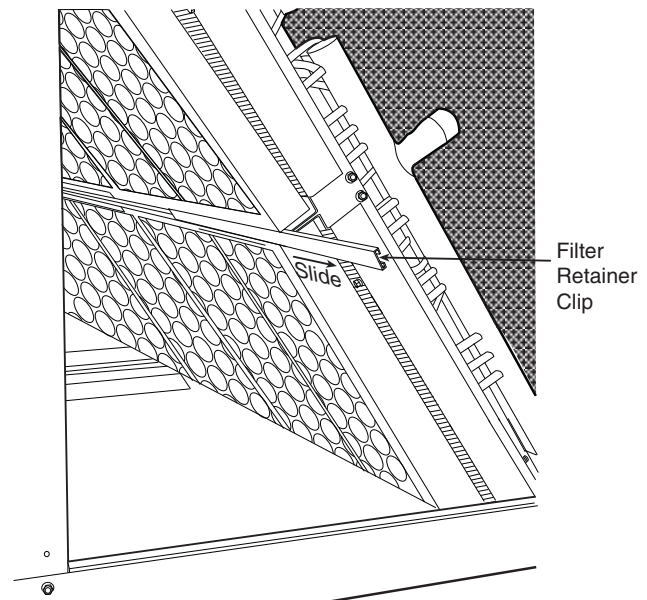

Fig. 34 — Remove Filter Retainer Clip
2. Remove the filter retainer clip (see Fig. 34).